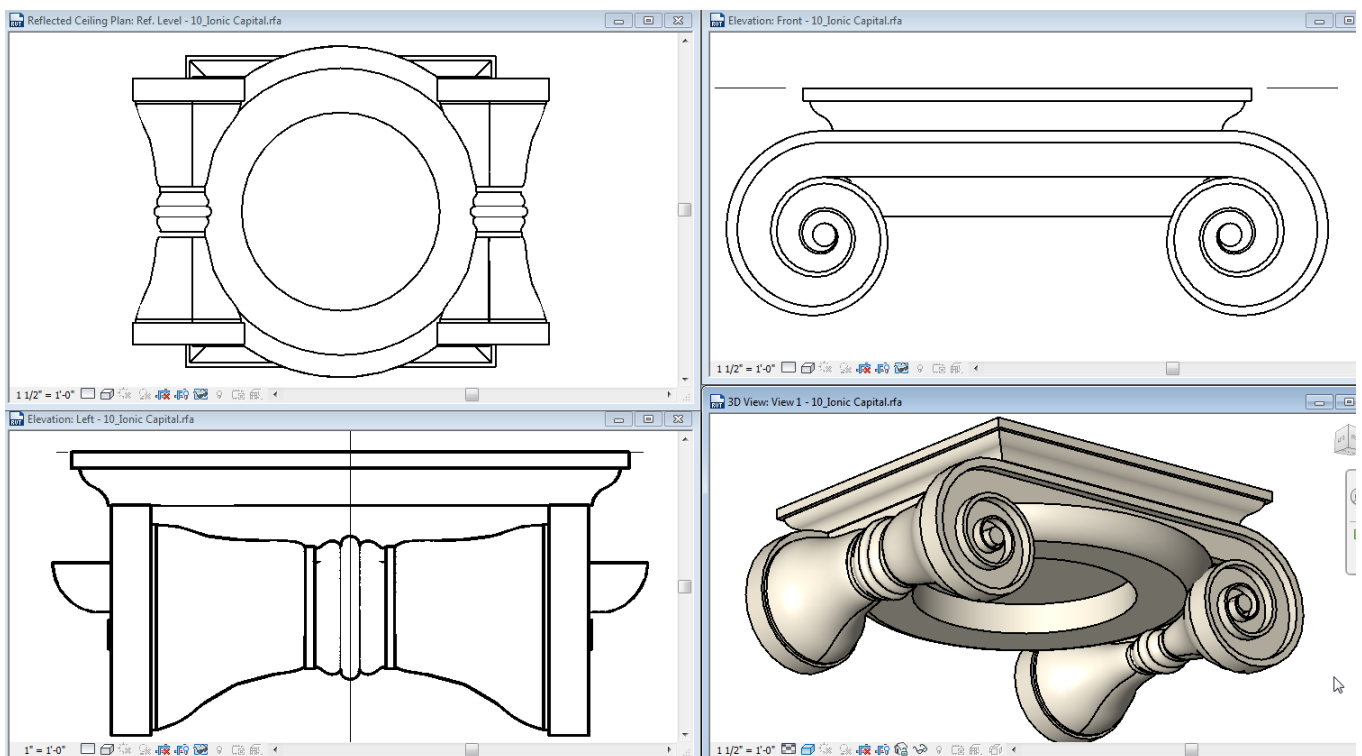

FIGURE 30—THE COMPLETED IONIC CAPITAL
1. Select all the sweeps and apply the Capital Material property to them (see Figure 30).